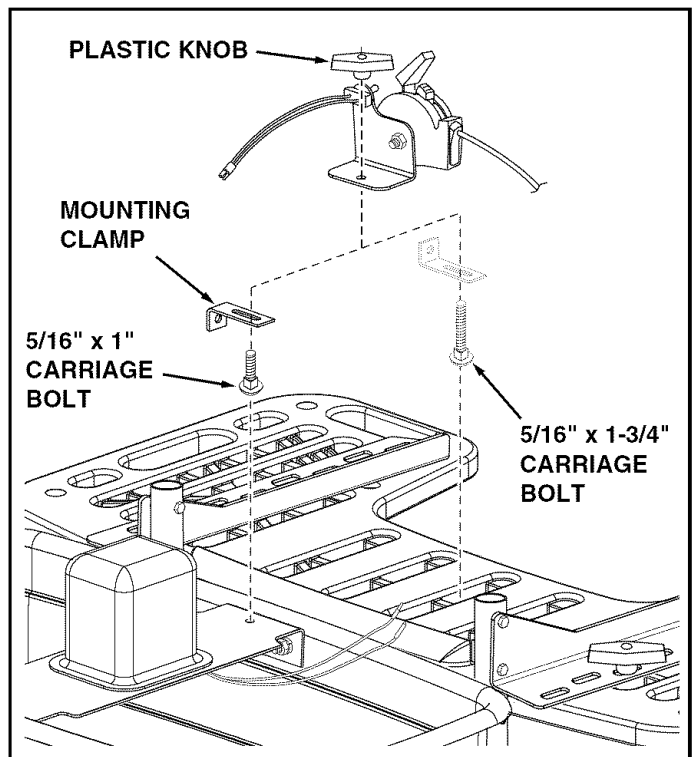

FIGURE 10
18. Attach the flow control to the motor mount bracket on the spreader using the 5/16" x 1" carriage bolt, a mounting clamp and a plastic knob. See figure 10.